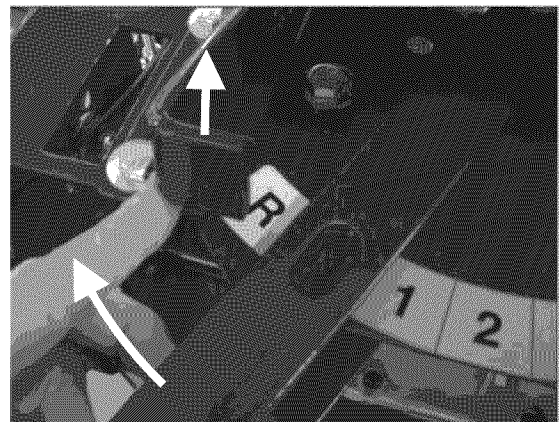

FIGURE 3.8
2. To engage transmission in reverse, lift up on reverse lockout lever, and move transmission shift lever from the neutral ('N') position into reverse ('R') gear. See Figure 3.8.